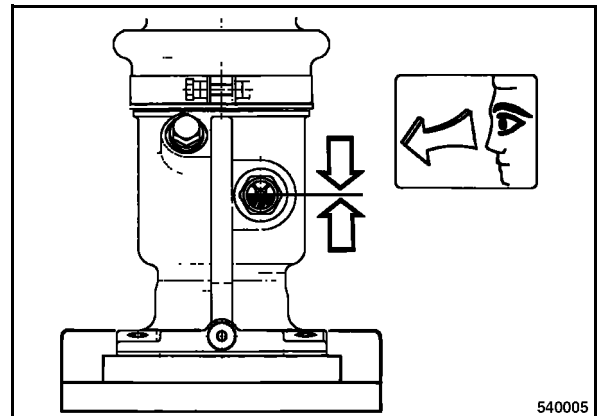

Fig. 58
- Clean the inspection glass (Fig. 58) and check the oil level.